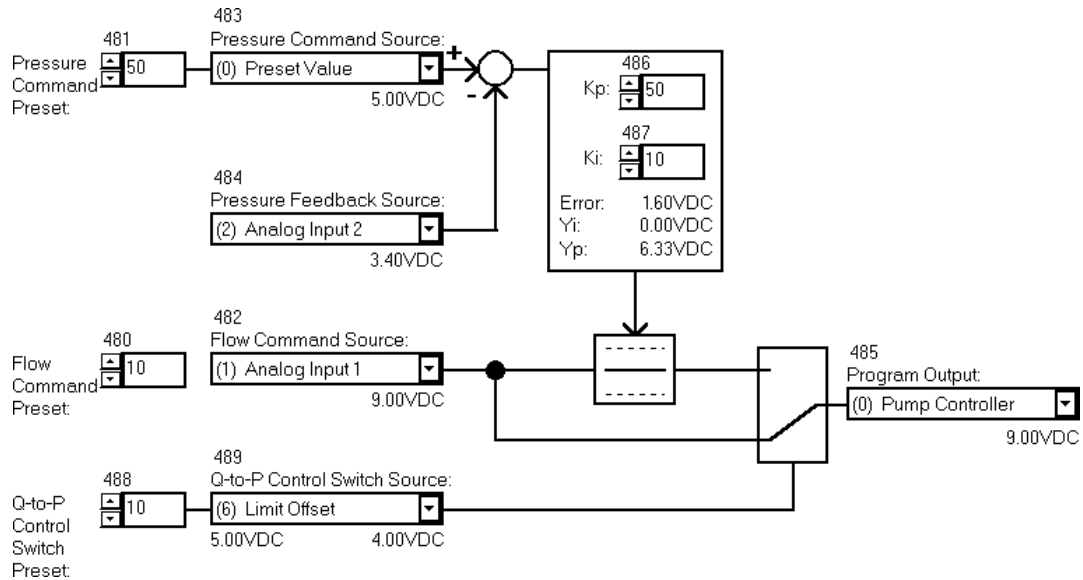

Figure 10: Pressure Control with Flow Preset Program in Flow Mode
Example: Figure 10 shows Program 9 Form for Pressure Control with Flow Preset in the Flow Mode. The Flow Command Source is Analog Input 1 (program item 482=1). The Flow Command Preset is set to 10% (program item 480=10) although the Flow Command Preset is not used in this example.